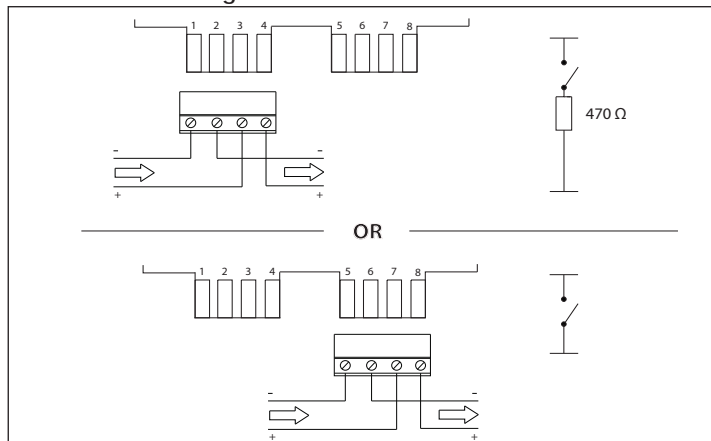

Fig 2 Terminal block connections
2. Remove terminal block from the PCB. Run the cables into the backbox and connect them to the terminal block as shown in Fig 2. Ensure that functional earth/screen continuity is maintained. Screens should be connected to the terminal in the backbox.